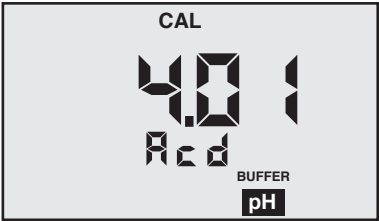

Figure 4
- At this point the “**CAL**”, “**BUFFER**” and “**Acd**” or “**bAS**” annunciators will be displayed (see Figures 4 and 5).